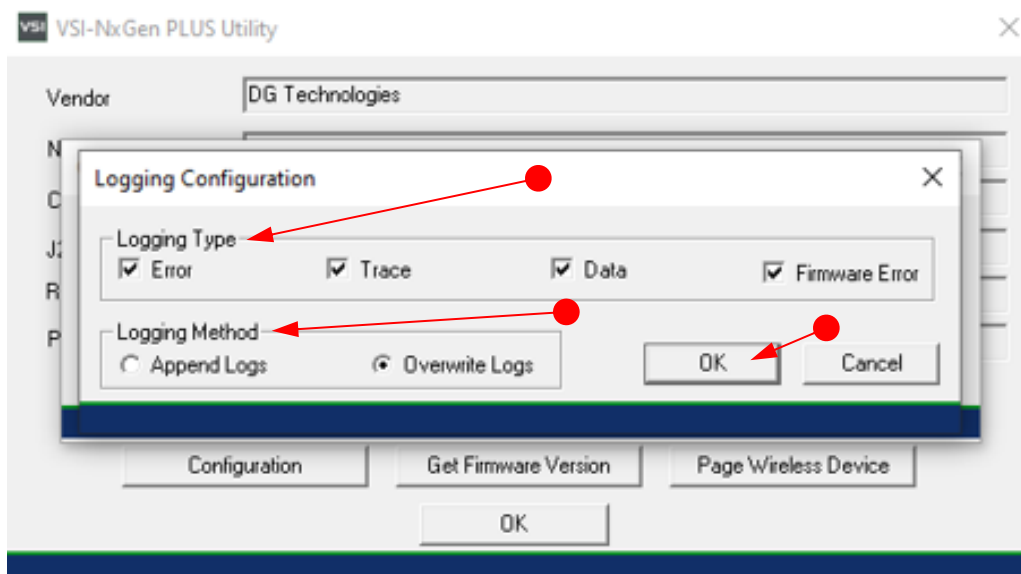

Figure 12 - VSI NxGen PLUS Select Logging Type and Method Configuration
- **[Logging Type] (Error, Trace, Data, Firmware Error):** Keep all active as shown in the Figure 12 unless you need to reduce the log file size.